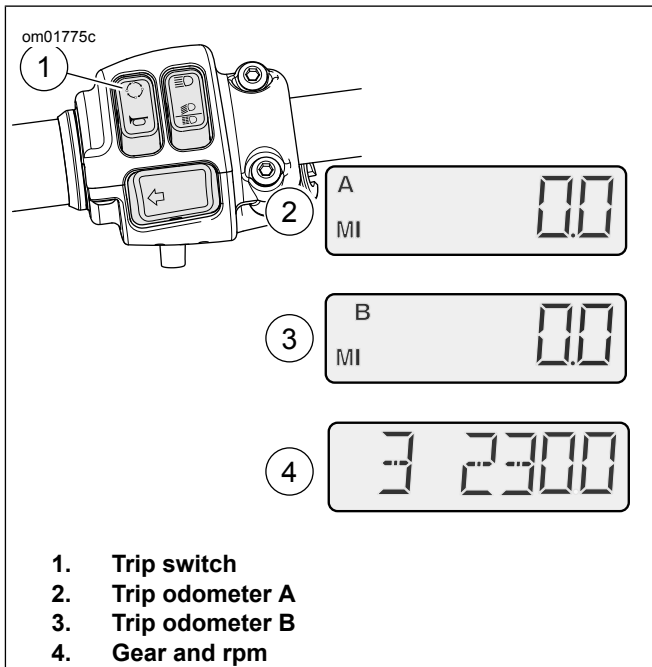

Figure 24. Trip Odometers, Gear Indicator and RPM: All except XL1200CX
See Figure 24. To check or to reset the trip odometers, press and release the TRIP switch (1) to display either the A (2) or
See Figure 24. Press and release the TRIP switch (1) to cycle through the odometer displays to select the gear number and the tachometer display (4). The odometer shows the current gear (1-5) and the engine speed in revolutions per minute (rpm).